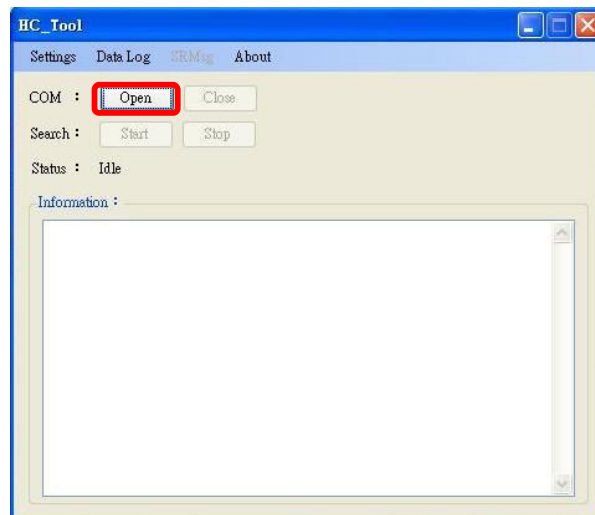

Figure 3-7: Click “Open” button
Step 1: Click the “Open” button to connect com port (Figure 3-7).